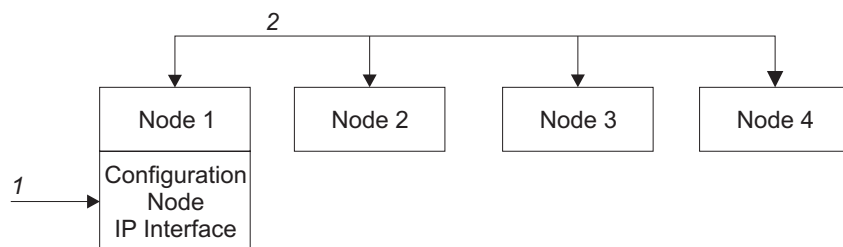

Figure 3. Configuration node
Figure 3 shows an example cluster that contains four nodes. Node 1 has been designated the configuration node. User requests (1) are handled by node 1.